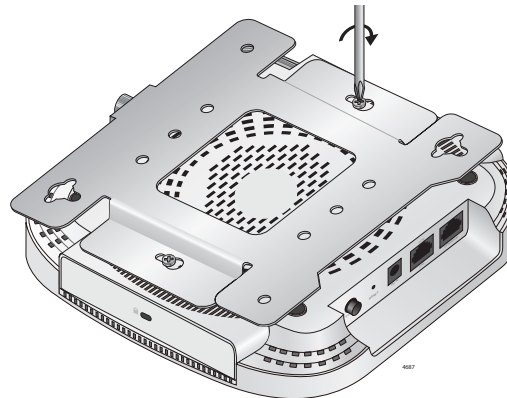

Figure 6. Adjust Screws on Access Point
2. Align and insert the two screws installed in Step 1 into the mounting bracket keyholes. Refer to Figure 6.